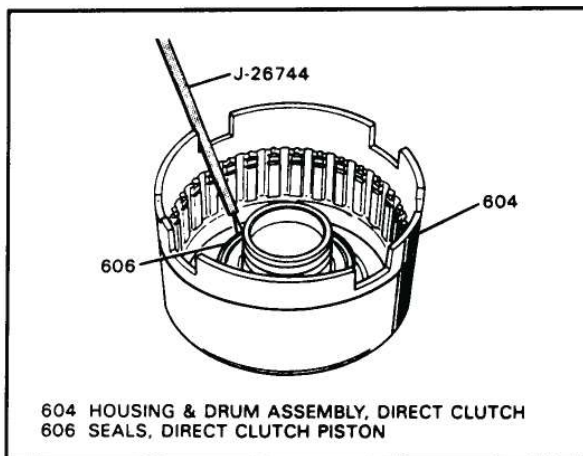

Figure 86
6. Install the direct clutch piston into the direct clutch housing in a rotating motion, and using tool J-26744 to compress outer lip seal while pushing down on piston (See Figure 86).